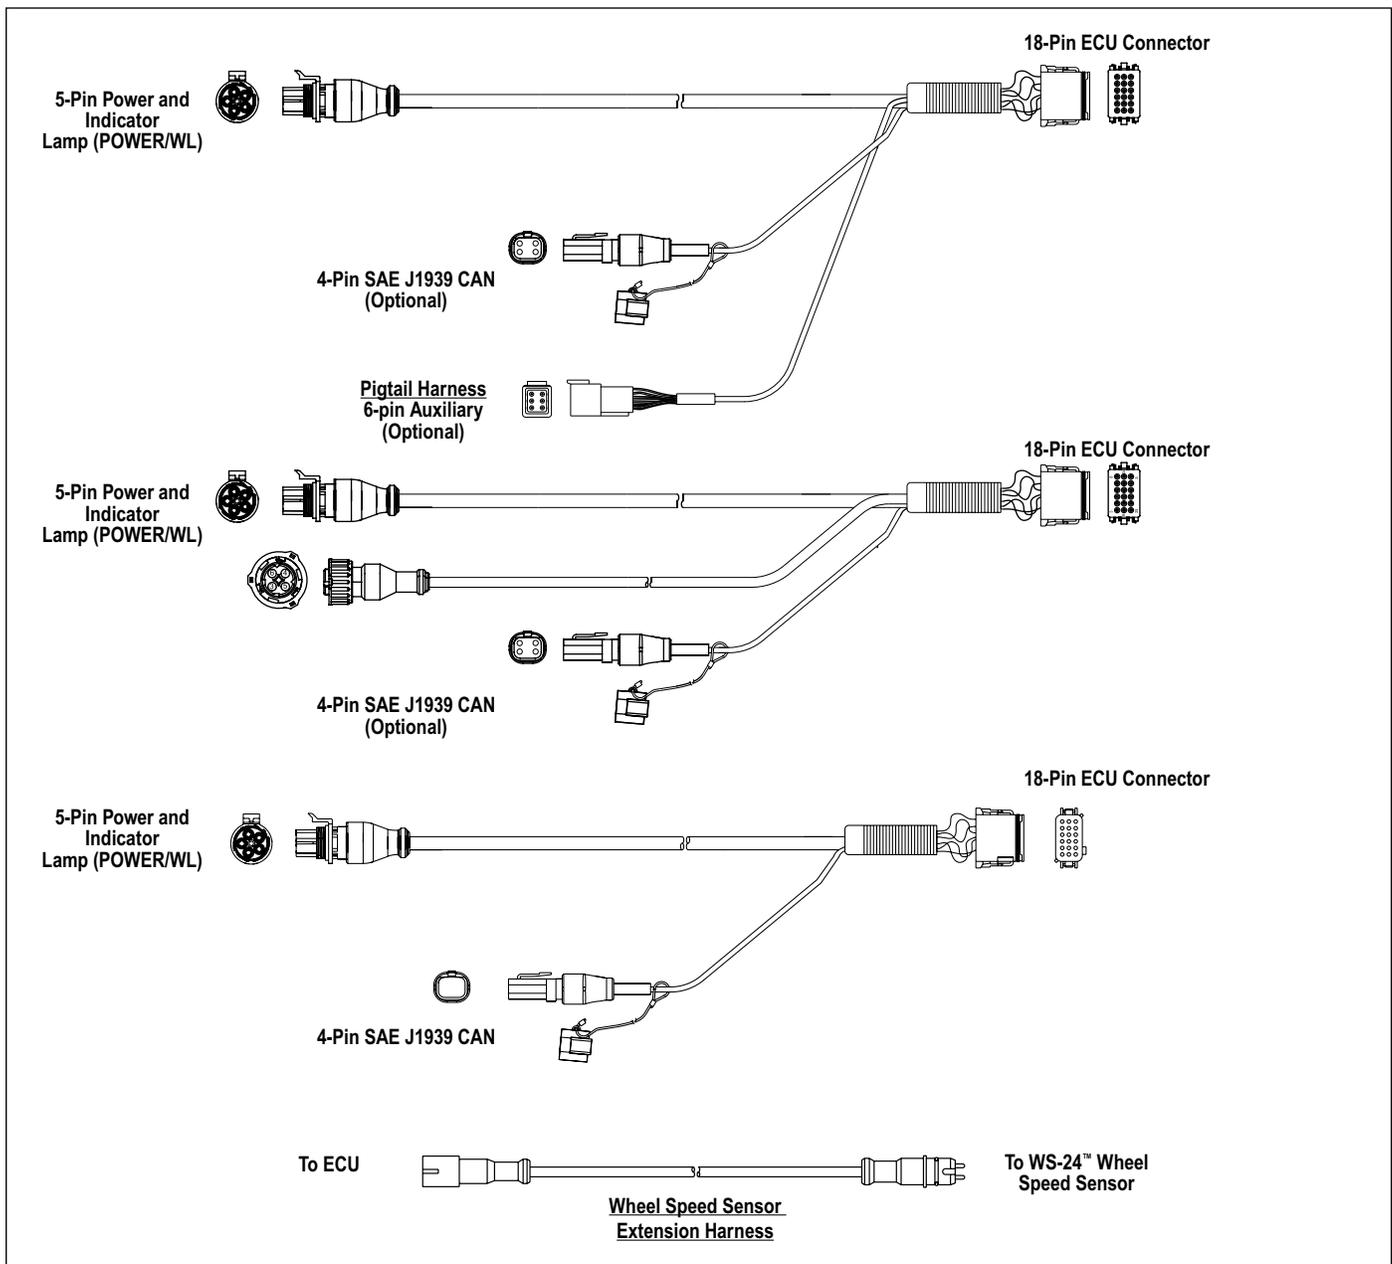

FIGURE 6 - EXAMPLES OF PIGTAIL WIRE HARNESSSES
- **Pigtail Wiring Harness:** A power pigtail harness is required, variations that include auxiliary sub-harnesses are available, as needed. See Figure 6.
- **Load Sensor:** If a trailer is equipped with an external electrical spring deflection sensor, *See Figure 3*, a linkage is attached to an axle (but must not be installed on a lift-axle) – within (five) 5 inches of the center of the axle – connects to a load sensor attached to the chassis of the vehicle. The output from the sensor is an electrical signal that is proportional to the spring deflection. The connection to the Electronic Control Unit (ECU) is via an auxiliary sub-harness (part of the power harness). *See Figure 6*.
See Figure 6.